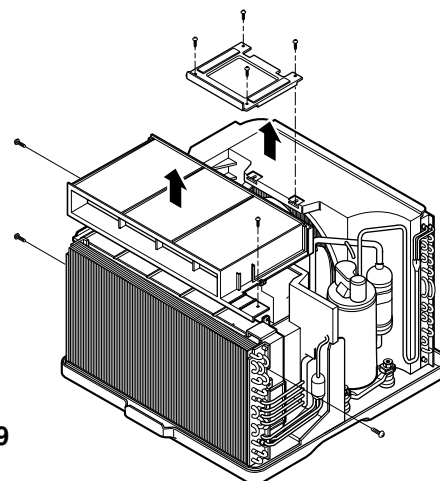

Figure 19
7. Remove the air guide upper.(See figure 19)